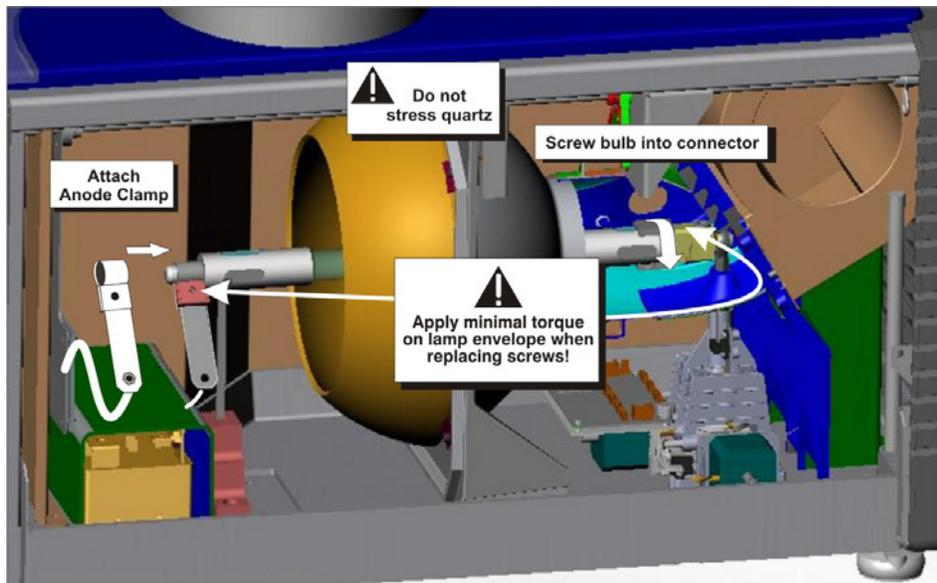

Figure 6-2 Install New Lamp
- b. Insert the threaded cathode (-) end of the lamp into the negative lamp connector nut located in the rear of the lamp compartment. **(Figure 6-2)** Using both hands, hand-tighten this end into the threaded nut. **Caution! 1)** Handle the lamp by the cathode/anode end shafts only, never the glass. **DO NOT over-tighten. DO NOT stress the glass in any way. 2)** Check leads. Make sure the anode (+) lead between the lamp and igniter is well away from any cinema projector metal such as the reflector or firewall.
- c. Rest the anode (+) end of the lamp on the anode yoke and slip the positive lamp connector over the bulb end. **(Figure 6-2)** Using the 5mm Allen key, squeeze together with the anode clamp making sure not to place any torque on the lamp quartz tube. **Important!** For CDXL-30SD lamps, make sure the “flat” part of the anode end of the lamp (if applicable) is facing in the 10 or 2 o’clock position once the lamp finger is installed in the 14mm threads and the clamp screw is tightened. For all other lamp types, keep the “flat” part of the anode end of the lamp facing up. **WARNING! Explosion hazard - Do not apply torque to the anode end of the lamp.**